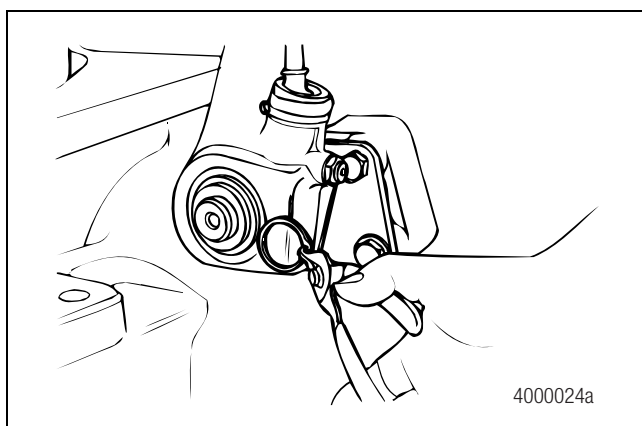

Figure 3.11
1. Remove the slack adjuster retaining ring at the adjuster end of the camshaft. Figure 3.11.